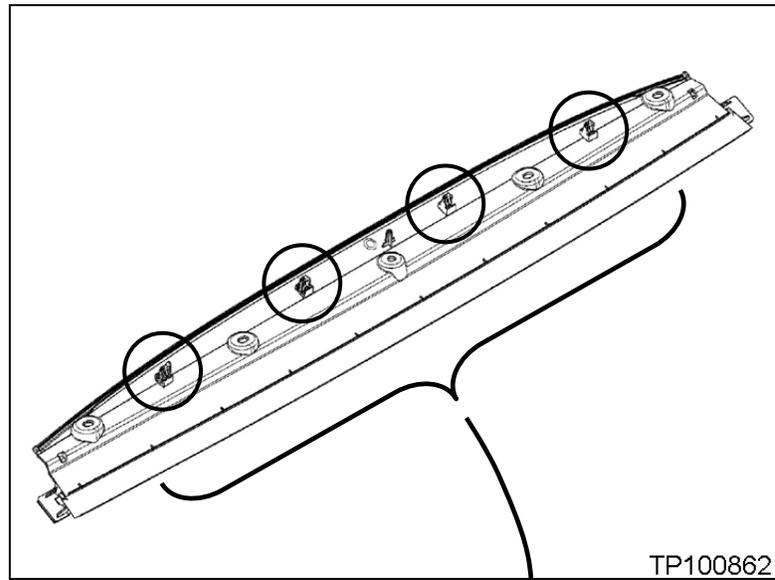

Figure 6
4. Cut to size, and then apply eight (8) pieces of felt cloth tape next to the clips where shown in Figure 6.